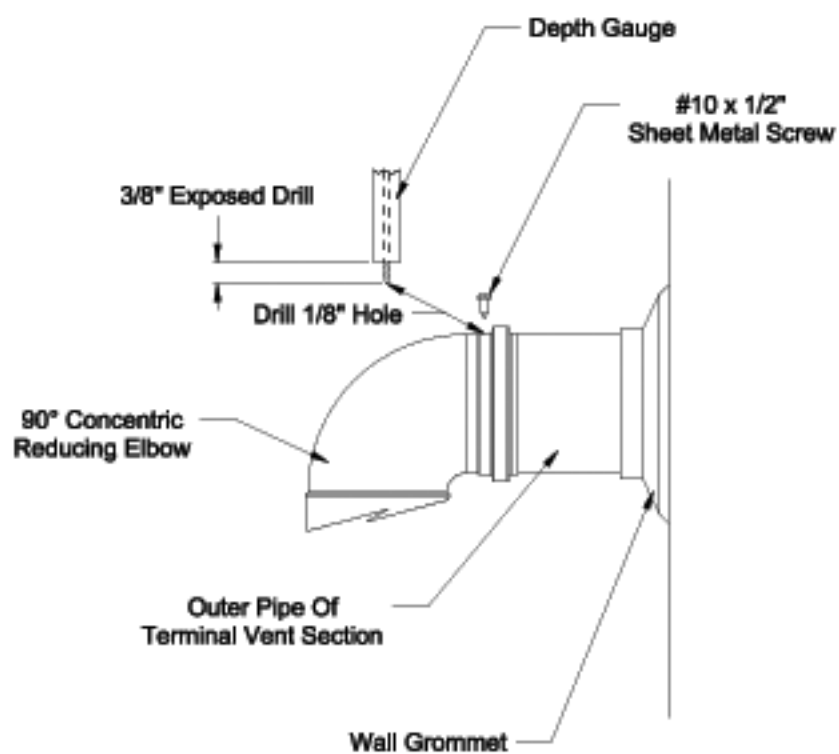

FIGURE 7.25: ATTACHING 60/100mm TERMINAL SECTION
- i) The terminal section must be attached to the elbow with a single #10 x 1/2" sheet metal screw ( not supplied) at the top of the elbow. Drill a 1/8" hole in the location shown in Figure 7.25. **Use a short drill bit or a drill stop to ensure that the drill bit does not penetrate the pipe by more than 3/8"**. Install a #10 x 1/2" screw in this hole. **Do not use a screw longer than 1/2" long.**